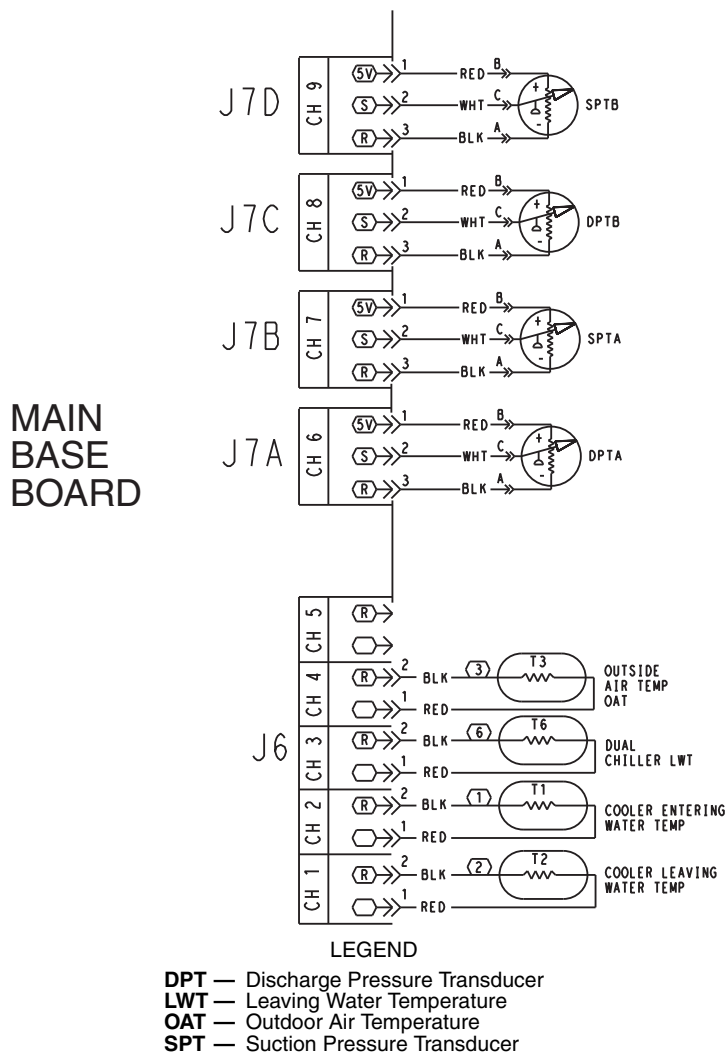

Fig. 11 — Thermistor Connections
13. To reconnect the thermistors, locate the entering water thermistor and leaving water thermistor and cut both leads where they can be spliced in the installed junction box. Cut, strip, and label both sides of the entering water thermistor lead "EWT." Cut, strip, and label the leaving water thermistor lead the same way, with "LWT" on both sides. See Fig. 11.